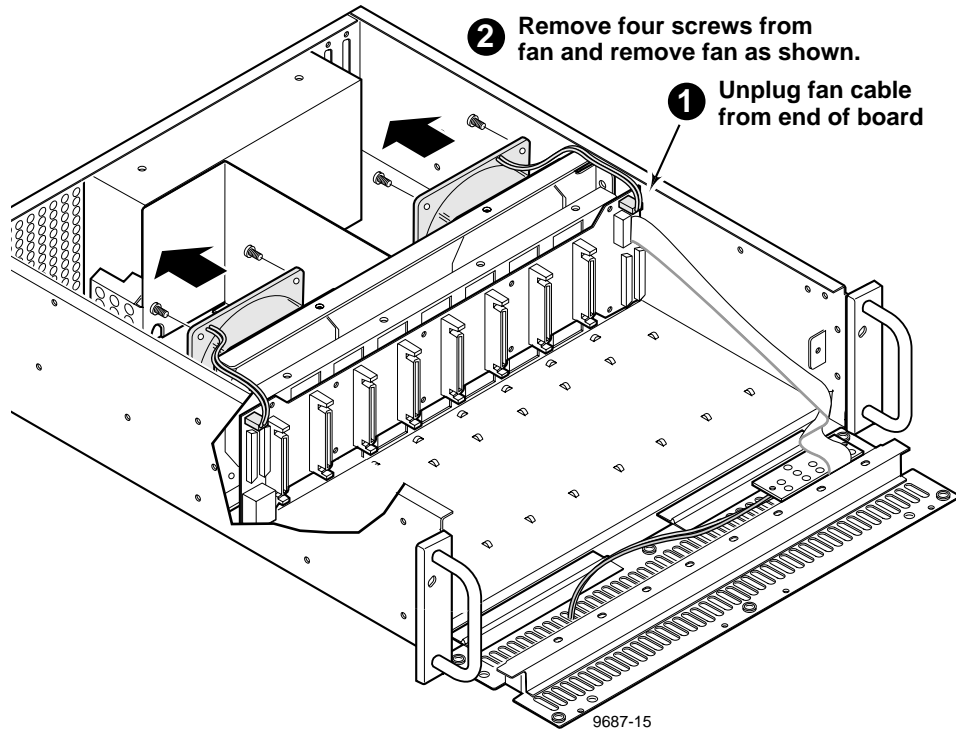

Figure 3-14. PDX218 Fan Removal
Figure 3-14 shows removal of a fan (item 2 in Table 3-1).
4. Disconnect the appropriate fan cable from the left or right side of the SCSI Distribution board (Figure 3-14).
1. Position the fan and mount with the screws previously removed (Figure 3-14)